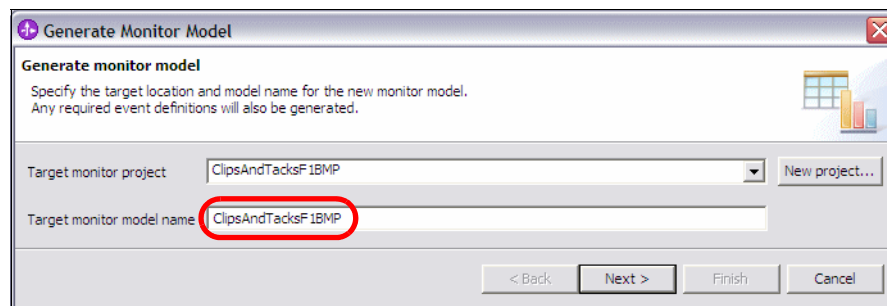

Figure 12-17 Monitor model name
- ▶ Type *ClipsAndTacksF1BMP* as the monitor model name and click *Next* (Figure 12-17).